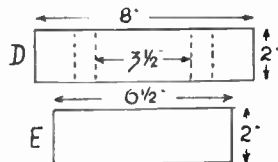

Fig. 2—The seat and cross rail
Cut four seat slats to size (D) in Fig. 2.